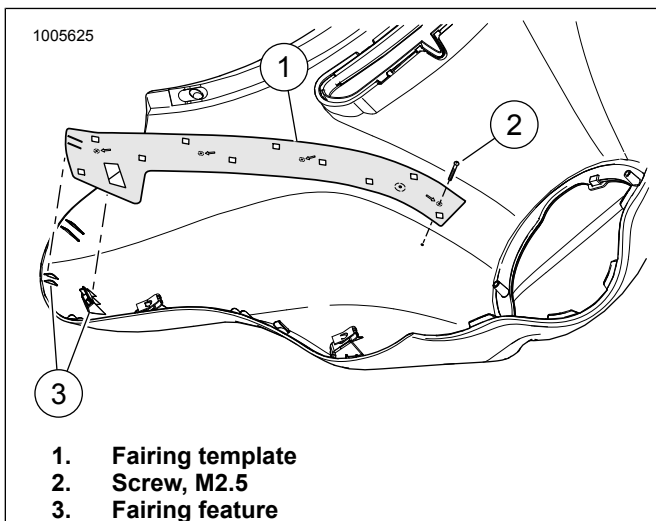

Figure 2. Mylar Template Installation
- Refer to Table 3. Screw (item 9) is used in the next step and should fit snugly for accurate alignment. Enlarge the hole slightly if the fit is too tight.
See Figure 2. Align Mylar template (1) using screw (2) and fairing features (3).